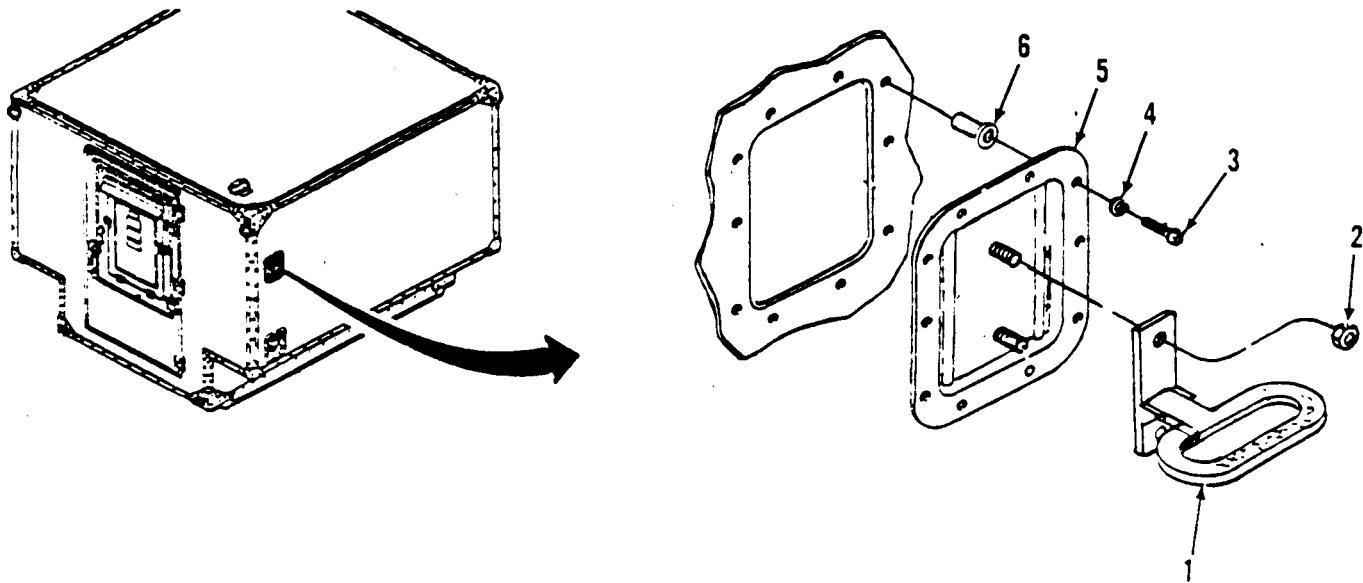

Figure 3-15. Recessed Step Pan Assembly Replacement.
**Replace. (Figure 3-15)**
- (1) Pull step (1) out and down to operating position.
- (2) Remove two attaching locknuts (2) and remove step (1).
- (3) Remove and retain ten phillips head screws (3) and lock washers (4) attaching recessed step pan (5) to shelter wall and remove pan.
- (4) If rivnuts (6) are damaged, remove and replace. (Refer to paragraph 3-9. b.)
- (5) Apply conductive compound to shelter wall where it will mate with flange of
- (6) position recessed step pan (5) in place on shelter wall and secure with ten phillips head screws (3) and lock washers (4).
- (7) Position step (1) in place over mounting studs in recessed pan (5) and secure with two locknuts.
- (8) Apply a continuous bead of sealer around edge of recessed step pan (5).